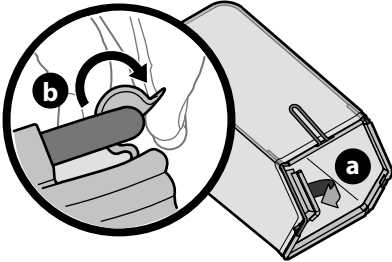

Figure 12
1. Perform the following to assemble the grass catcher (Figure 12).